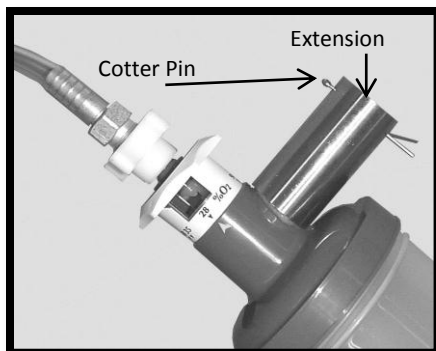

Figure 18: Nebulizer Extension & Cotter Pin
1. On the nebulizer extension, use the needle-nose pliers to squeeze the two ends of the cotter pin together; then remove the pin from the extension (Figure 18).
3. Place the nebulizer in the ice tray with the extension through the opening in the door (Figures 18 and 19).